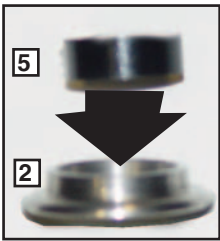

Figure 1
1. Insert a Cushion into each Upper Outer Spool, item 2. **Figure 1**